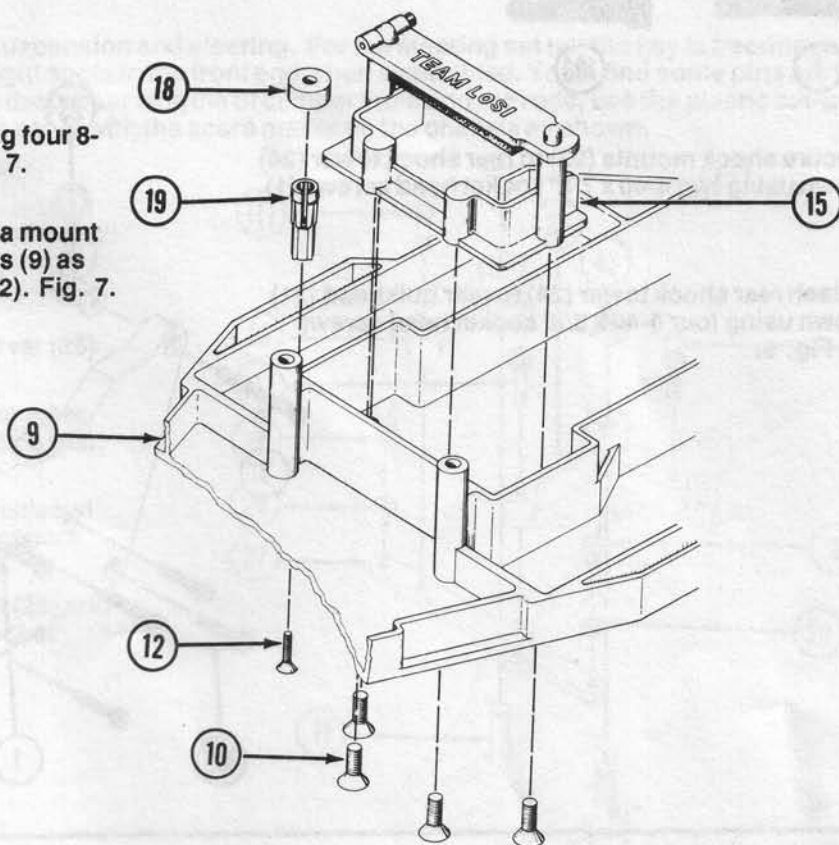

FIG. 7
10. Attach battery box (15) to chassis (9) using four 8-32 x 1/2" flathead aluminum screws (10). Fig. 7.
11. Affix antenna mount cap (18) onto antenna mount (19) and secure antenna mount (19) to chassis (9) as shown using one 4-40 x 3/8" flathead screw (12). Fig. 7.